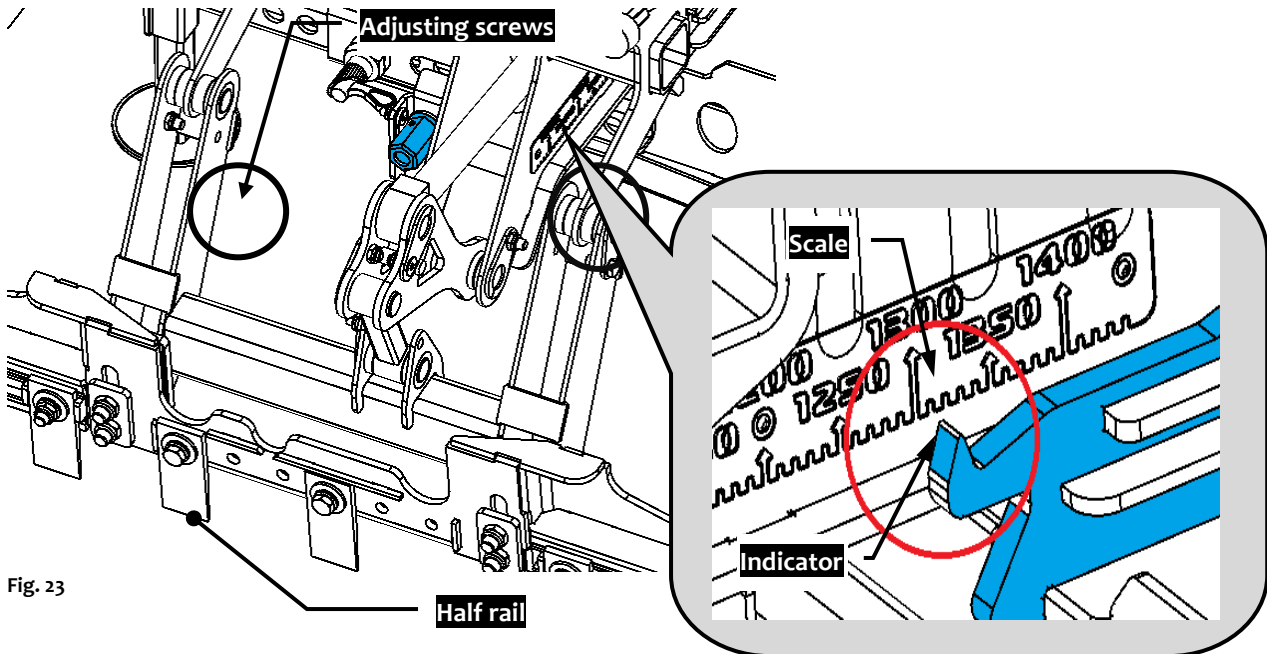
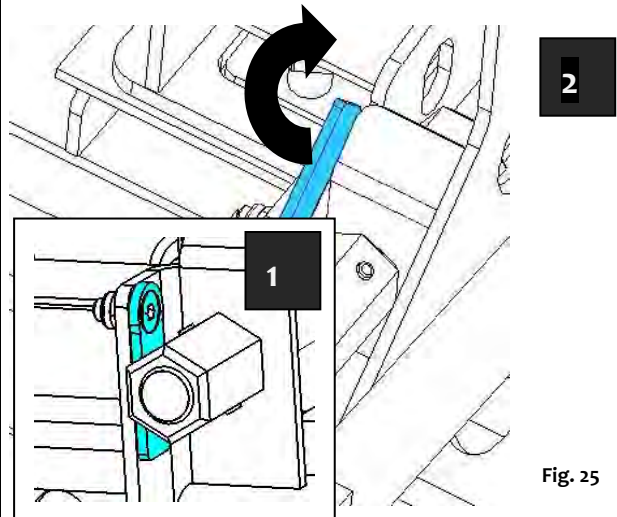
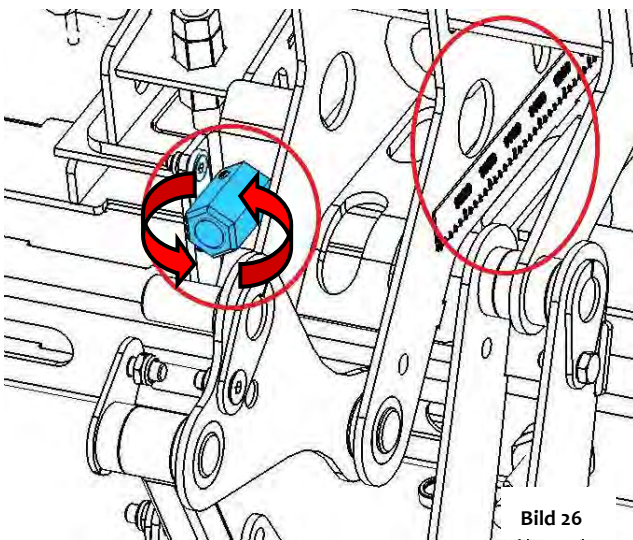

Fig. 23
Fig. 25
Bild 26
- Rough adjusting of both parts of the main clamping by the adjusting screw (Fig. 25), so that the previously adjusted distance of the stone layer packet is displayed on the scale (Figure 23, 24 u. 25).
Move the rotary protection upwards (see Fig. 25) before adjusting the adjusting screw.
The adjusting must have the same value at the left and right side (orientation on adjusting scale → Fig. 23 or Fig 26).
Then move the rotary protection downwards to secure the side clamping (see Fig. 25).